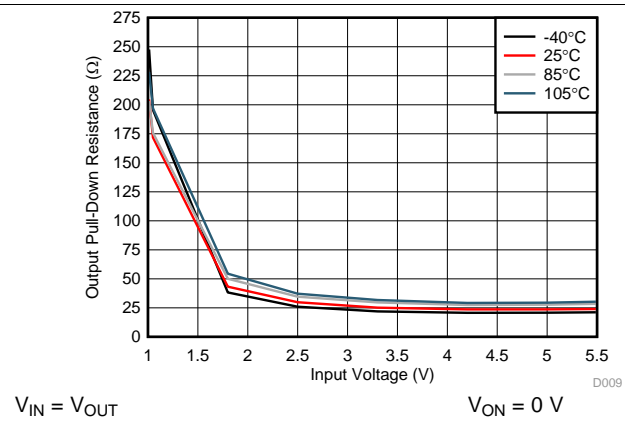

Figure 7. Output Pull-Down Resistance vs Input Voltage
(1) Output pull down resistance varies with input voltage. Please see Figure 7 for more information.